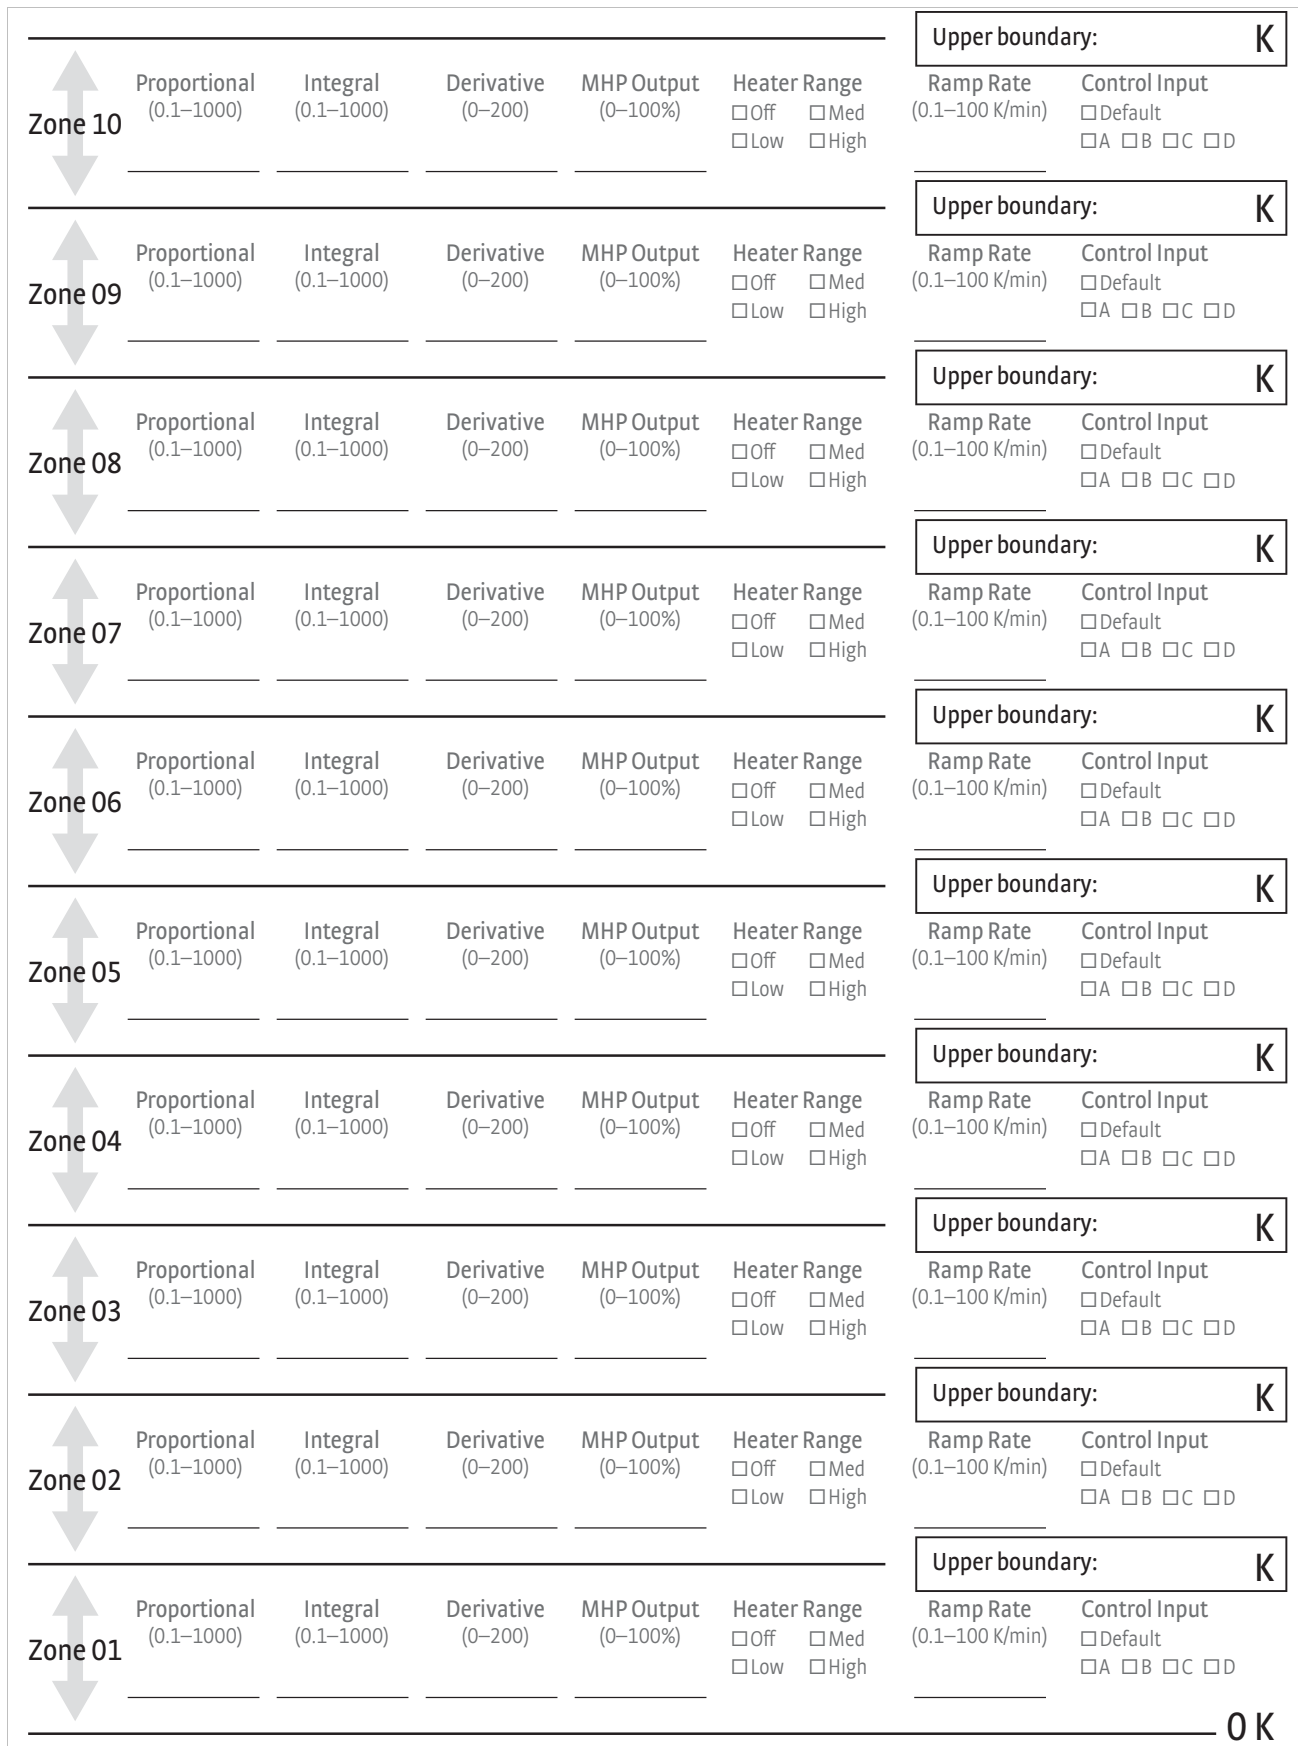

FIGURE 5-1 Record of Zone settings
The Model 336 allows the user to establish up to 10 custom contiguous temperature zones where the controller will automatically use pre-programmed values for PID, heater range, manual output, ramp rate, and control input. Zone control can be active for both control loops at the same time. The user should configure the zones using 1 as the lowest to 10 as the highest zone. Zone boundaries are always specified in kelvin (K). The bottom of the first zone is always 0 K; therefore, only the upper limit is required for all subsequent zones. Make a copy of FIGURE 5-1 to plan your zones.